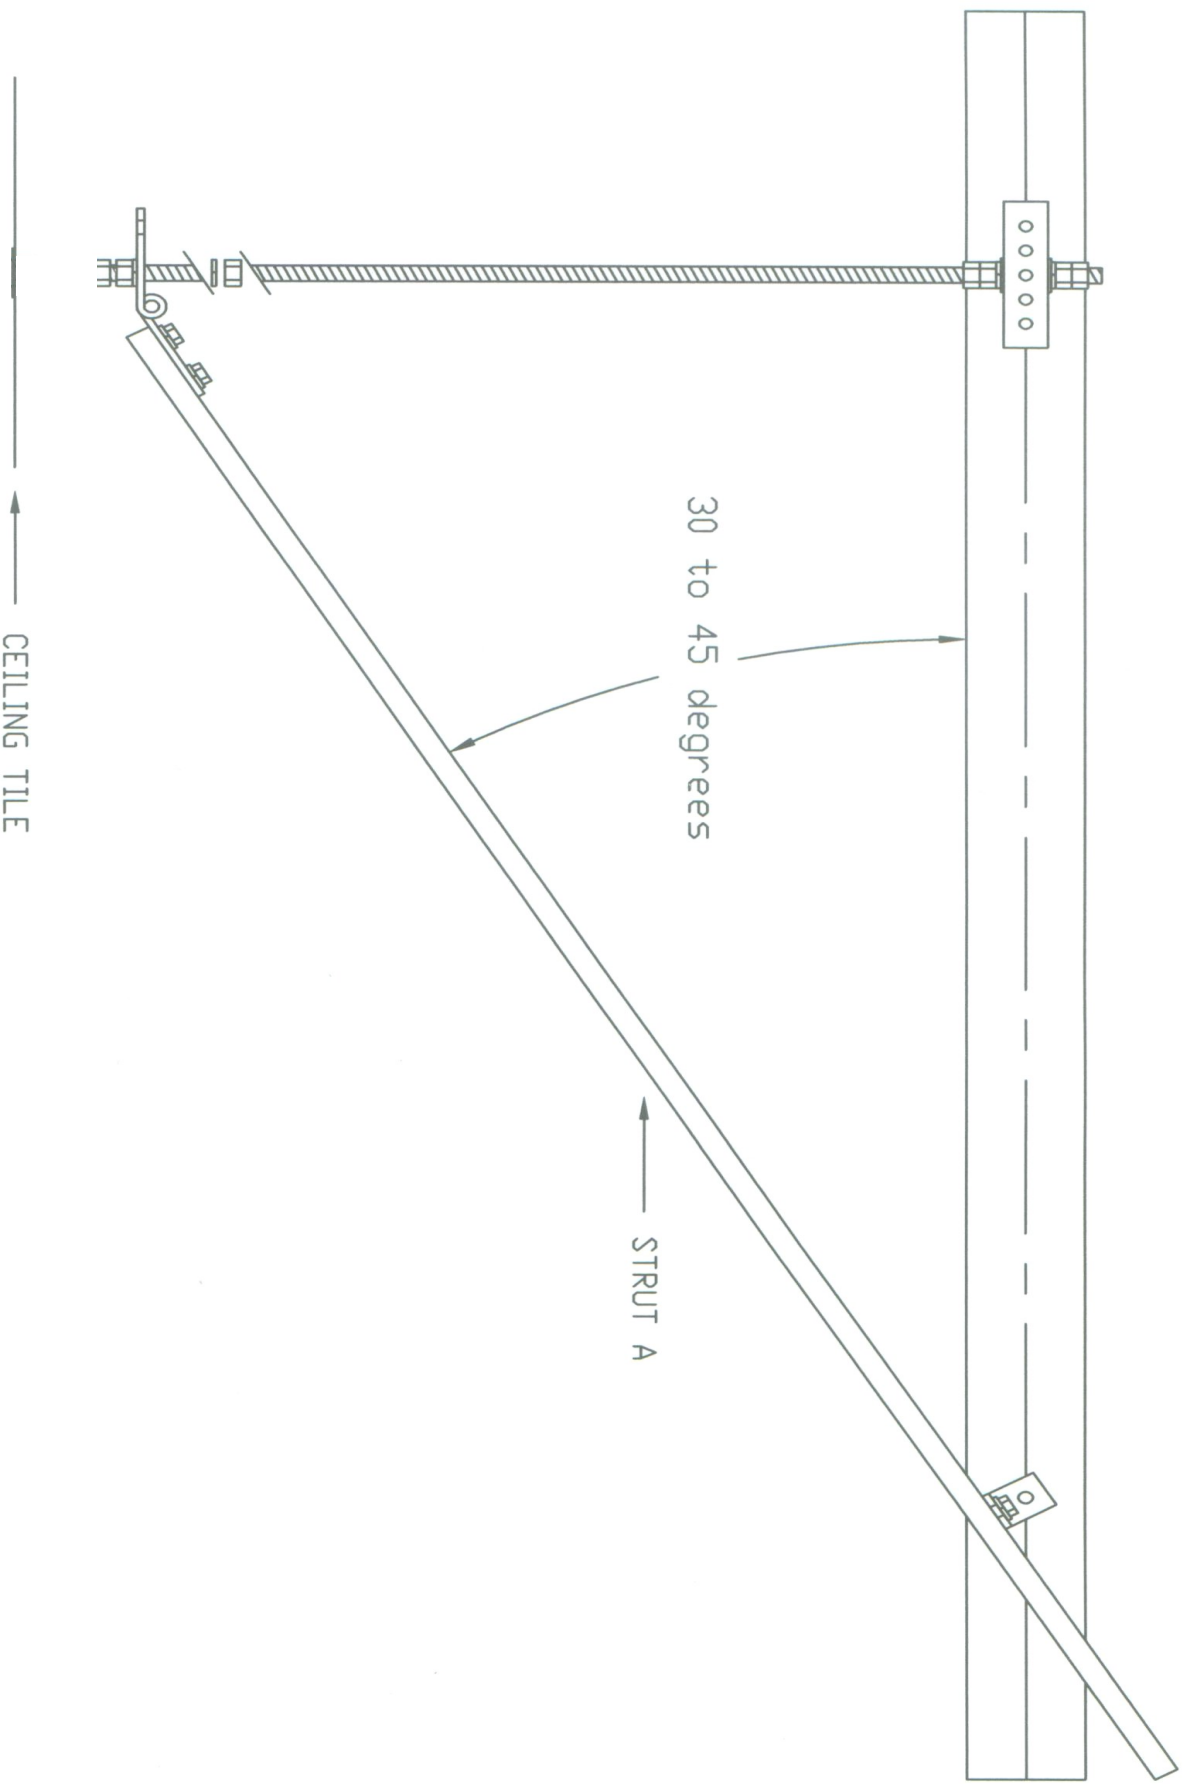

Figure 2
- Position the tube against the joist where you want the suspension point making sure that it is level and centered on the joist (see fig. 2 and/or page 10 lower right corner image). Mark the outside holes on each end of the tube on the joist. Remove the tube and drill a 3/8" hole through the joist at each mark. Put a 3/8" flat washer on each of the two 3/8" x 4" bolts. Put the bolts through the holes in the tube then through the drilled holes pushing the tube against the joist. Put a 3/8" fender washer then a 3/8" lock washer on the threaded ends of each bolt. Start a 3/8" nut on each bolt and